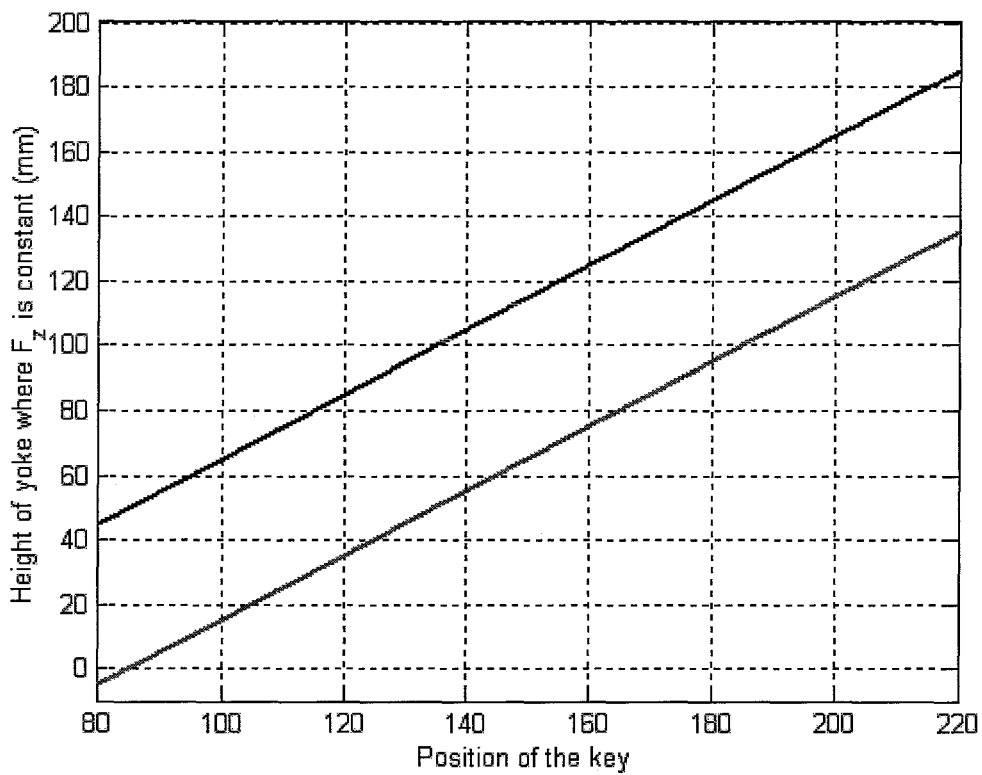

Figure 2.6: Air spring characteristic
- 3) Find those 2 values at the left side of figure 2.6. Now look what the key value is when those 2 values are within the 2 lines.